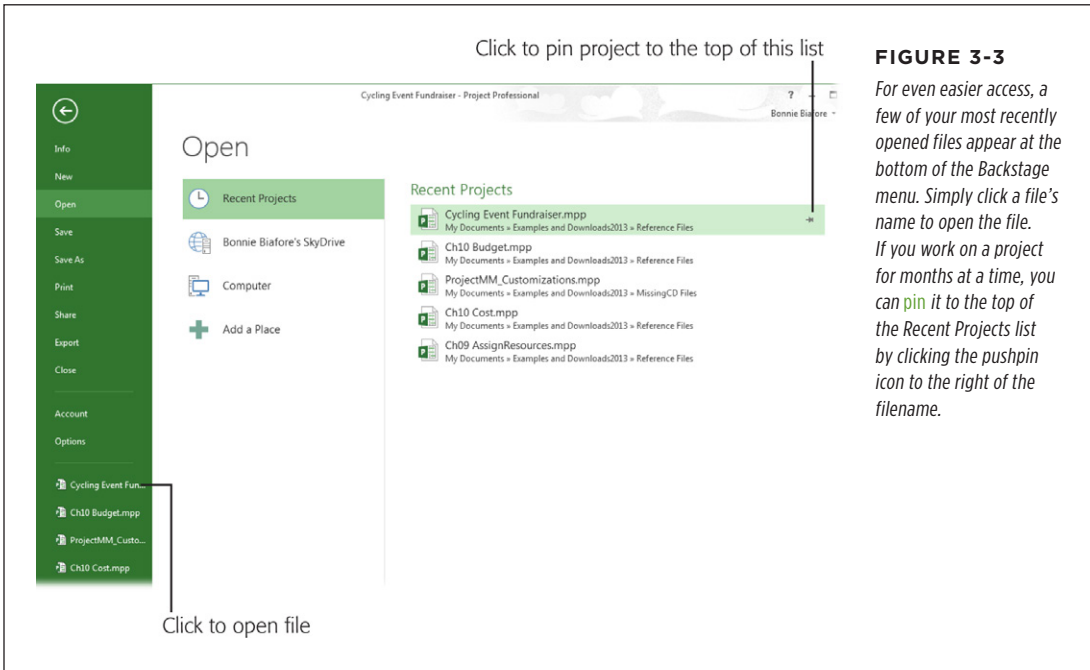

FIGURE 3-3
- **Open.** The Open page, shown in Figure 3-3, has been revamped in Project 2013, so it's easy to access your Project files, whether they're stored on your computer or in the cloud. Click Recent Projects to see a list of all the projects you've opened lately. If you open a lot of Project files—say, as you write a book about Project—this is the quickest way to reopen a file. File locations in the cloud, such as SkyDrive or Office 365 SharePoint, appear below the Recent Projects entry. You can add other storage locations by clicking “Add a Place.” If you use Project Server or subscribe to Project Online (an online Microsoft service for managing project portfolios and collaborating with project teams), you can also share your file to Project Server or Project Online. For files stored on your trusty computer, click Computer.